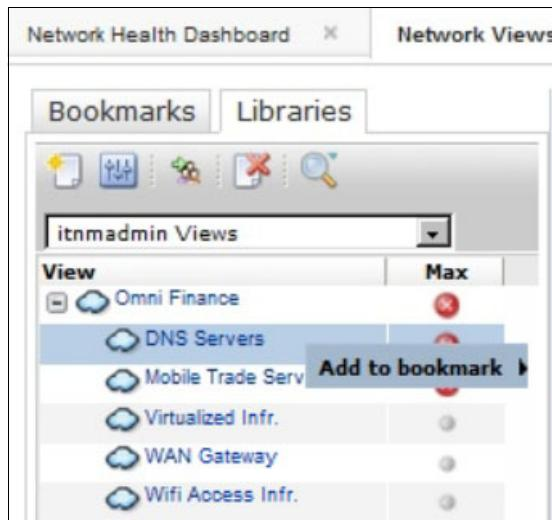

Figure 2-10 Adding Network Views to bookmarks for networks for Omnipro
- c. Right-click the wanted network view and click **Add to Bookmark**. An example is shown in Figure 2-10.